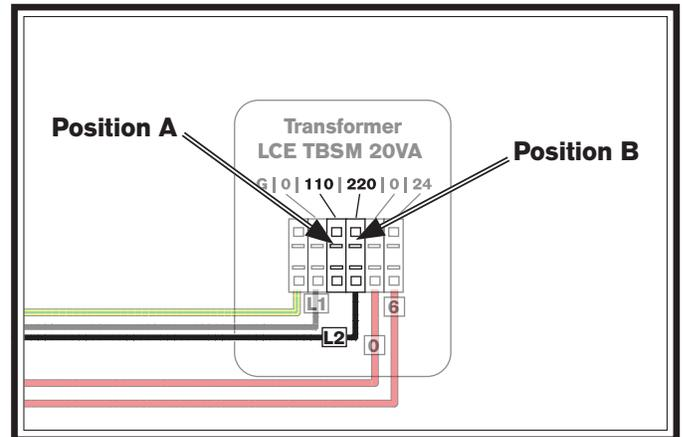

Figure 50. Transformer rewired for 220V.
5. Depress the push spring terminal at the 110 terminal Position A and remove the L2 wire (see **Figure 50**).